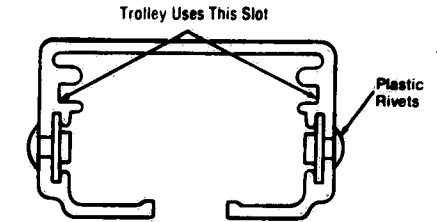

Figure 4-6. PLASTIC TROLLEY DUCT.
the duct may have sheared and become lodged between the trolley brush and the duct. See Figure 4-6. Remove sheared plastic rivet.
e. Binding can occur if trolley is installed in the wrong slot on the duct. After installing the plastic trolley (15, Figs. 5-5, 5-5A), check the installation to ensure the trolley is in the right track. See Figure 4-6 for correct slot.